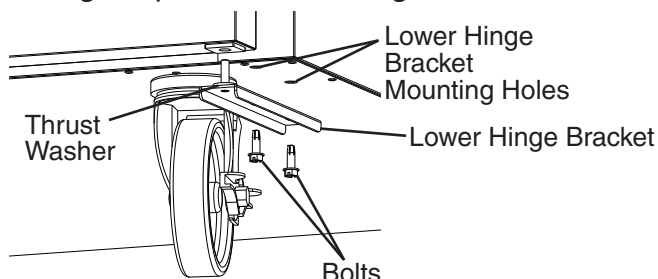

Fig. 13
- 5) Remove the lower hinge bracket. See Fig. 13. Be sure to leave the thrust washer in place.